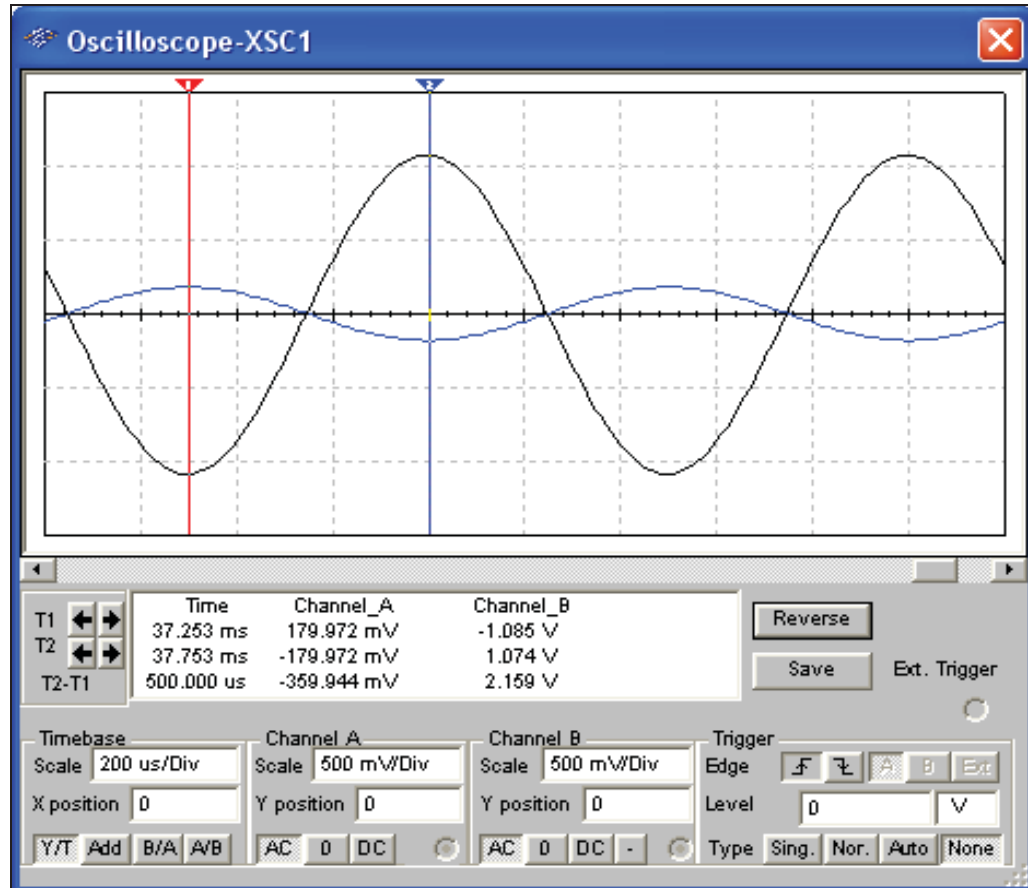

Figure 23
16. Now your screen should look similar to Figure 23 once you scroll backward using the scroll bar at the bottom of the Oscilloscope. Note you can push the reverse button on the scope to change the default colors. You can use the cursors to measure the amplitude of the signals. Right click on each of the cursor and explore the different options to set the cursors as shown in Figure 23.